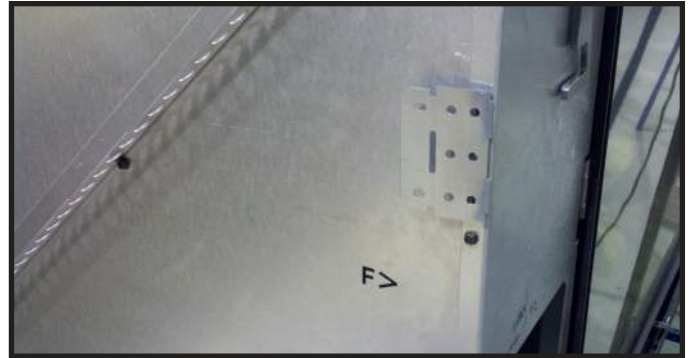
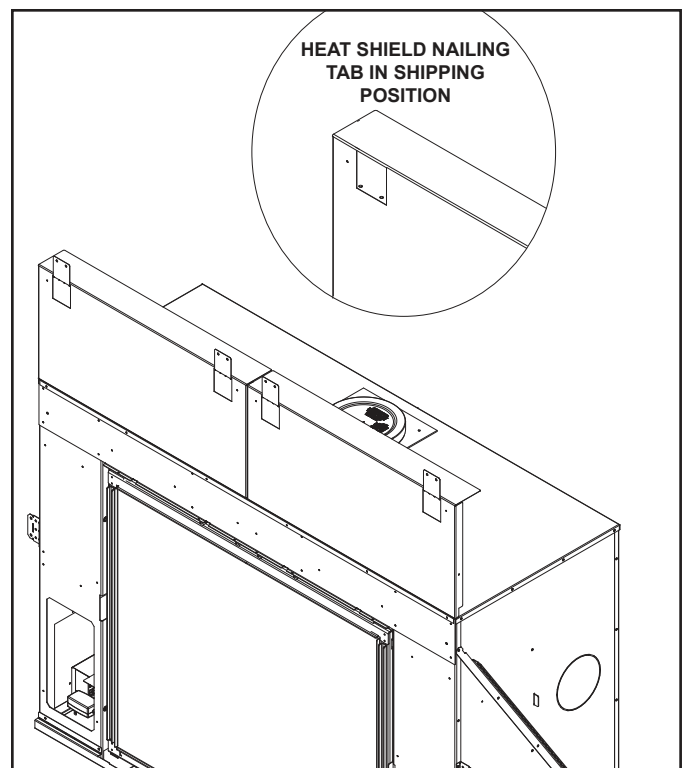

Figure 6.4 Side Nailing Tab in Shipping Position
Figure 6.6. Heat Shields and Nailing Tabs in Installation Position
Nailing tabs are provided on the appliance and on the heat shields to secure the appliance to the framing members. See Figure 6.4 and Figure 6.6 for location of nailing tabs in shipping position.
- Bend the top header heat shields upward to position them vertically and bend out the two nailing tabs on the top of each header heat shield. Secure to framing. See Figure 6.6.